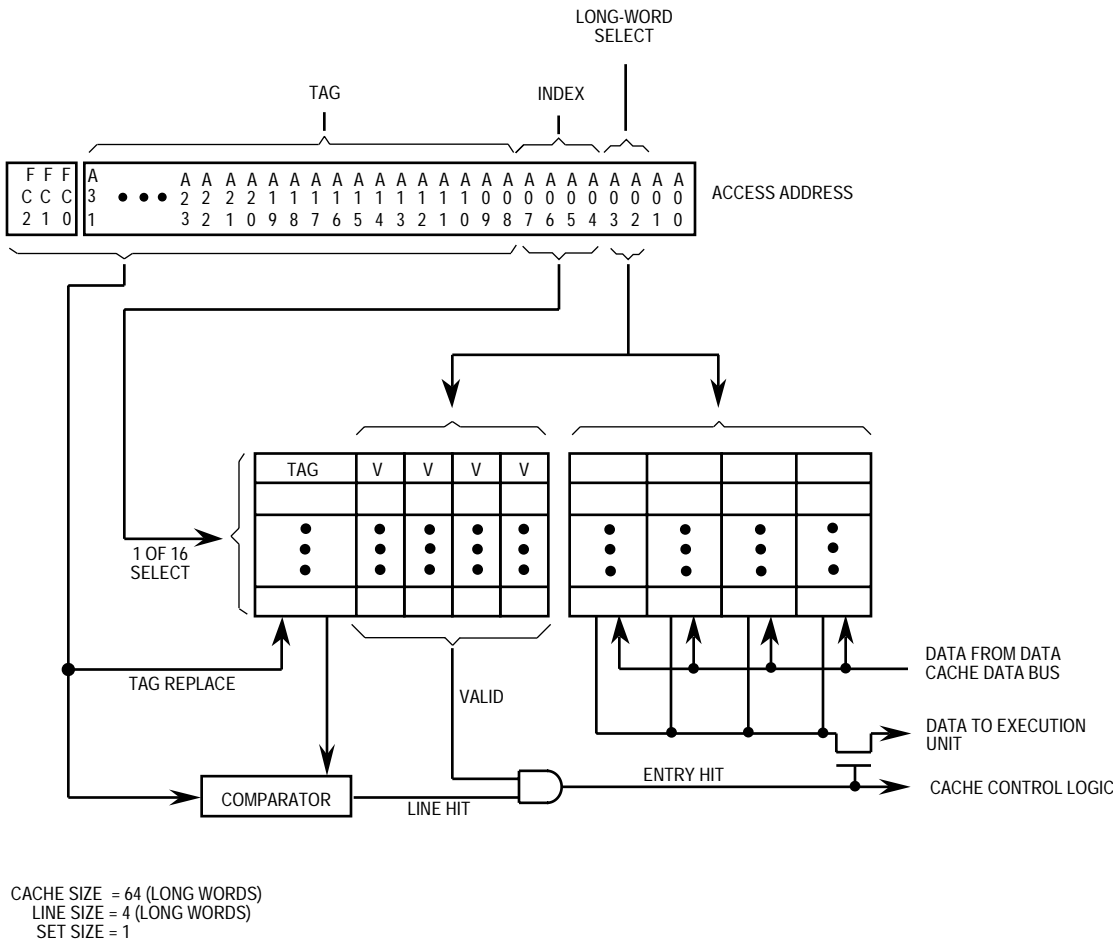

Figure 7. On-Chip Data Cache Organization
The organization of the data cache (see Figure 7) is similar to that of the instruction cache. However, the tag is composed of the upper 24 address bits, the four valid bits, and all three function code bits, explicitly specifying the address space associated with each line. The data cache employs a write-through policy with programmable write allocation of data writes— i.e., if a cache hit occurs on a write cycle, both the data cache and the external device are updated with the new data. If a write cycle generates a cache miss, the external device is updated, and a new data cache entry can be replaced or allocated for that address, depending on the state of the write-allocate (WA) bit in the CACR.